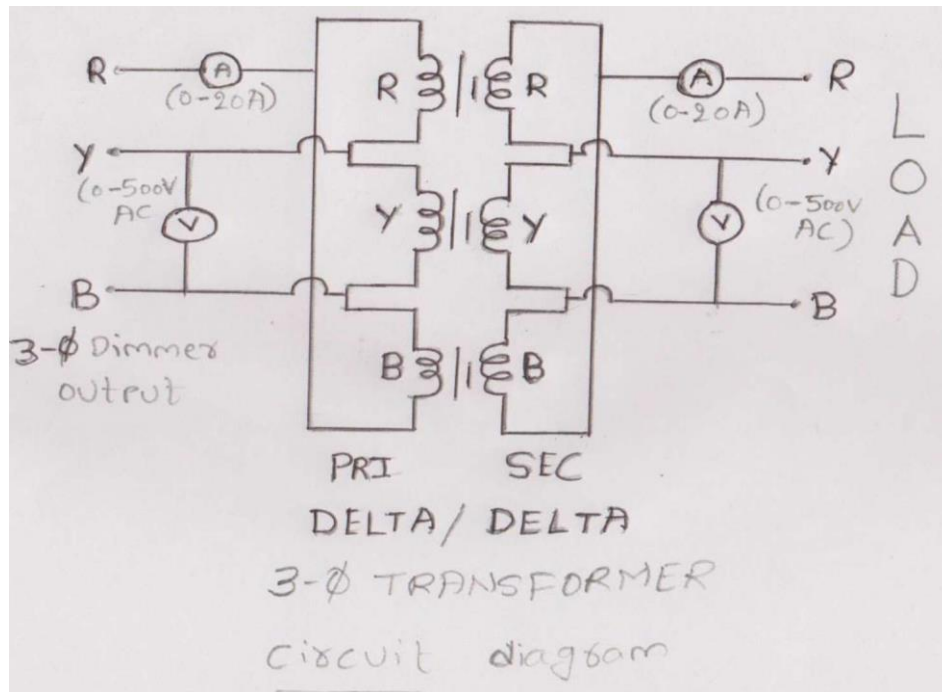

Fig 2
8. Repeat the same procedure for (fig 2,3,4) remaining configurations.